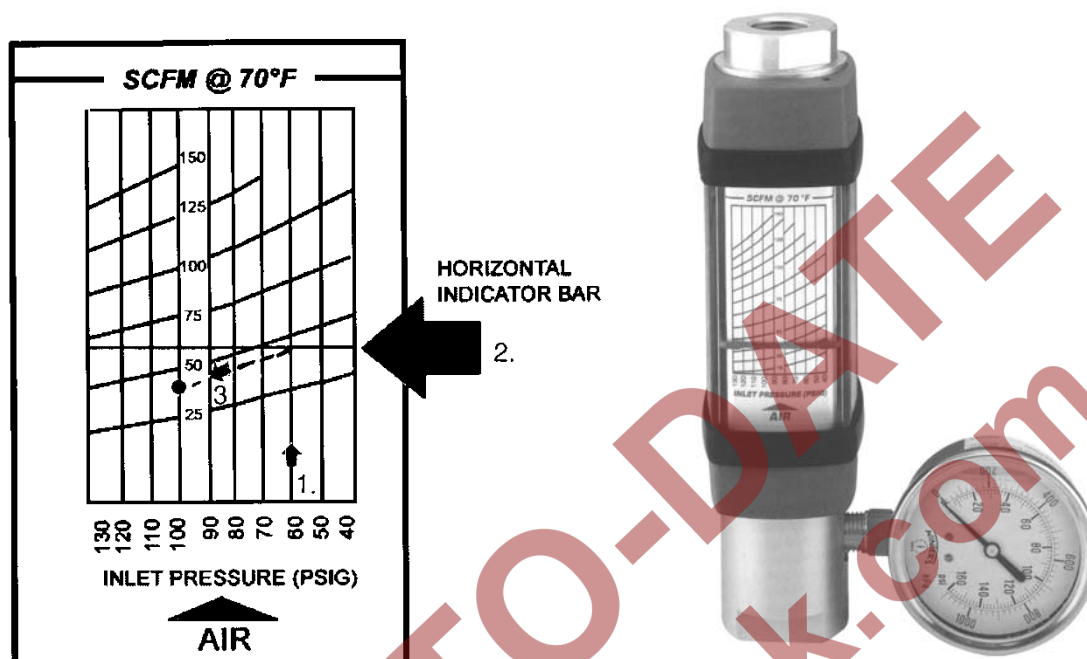

Figure 12. Compressed Air Flow Meter and Scale
- Compressed air flow can be read directly from the compressed air flow meter (see Figure 10). Refer to Figure 12 for detailed instructions on how to head the compressed air flow meter. Verify that both the compressed air flow and burner inlet pressure, from step 4, meet or exceed the values given in Table 11 and/or the additional burner capacity and performance data sheets.
To determine the compressed air flow rate, refer to Figure 12 and proceed as follows:
3. From the intersecting point on the horizontal indicator bar, follow the slope as shown on the diagonal lines to the 100 psig inlet pressure vertical line and interpolate the scfm or lps flow rate (Note for the example shown in Figure 12, with an inlet pressure of 60 psig, the compressed air flow rate is approximately 40 scfm).